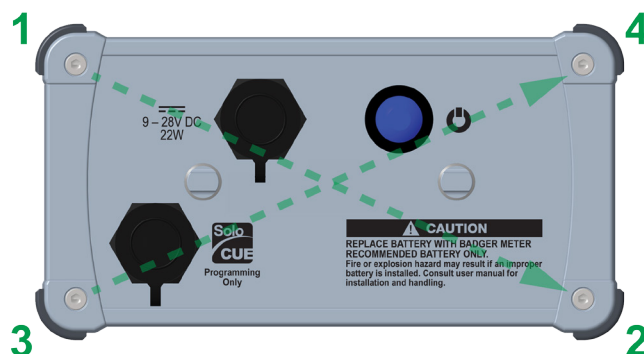

Figure 25: Sequence for screw reinstallation
- b. Reinstall the four screws in the sequence shown in Figure 25 and lightly thread. For the first pass, torque to 2 inch-pounds. For the final pass, torque to 2.7...3.1 inch-pounds. Be sure not to cross-thread or overtighten.